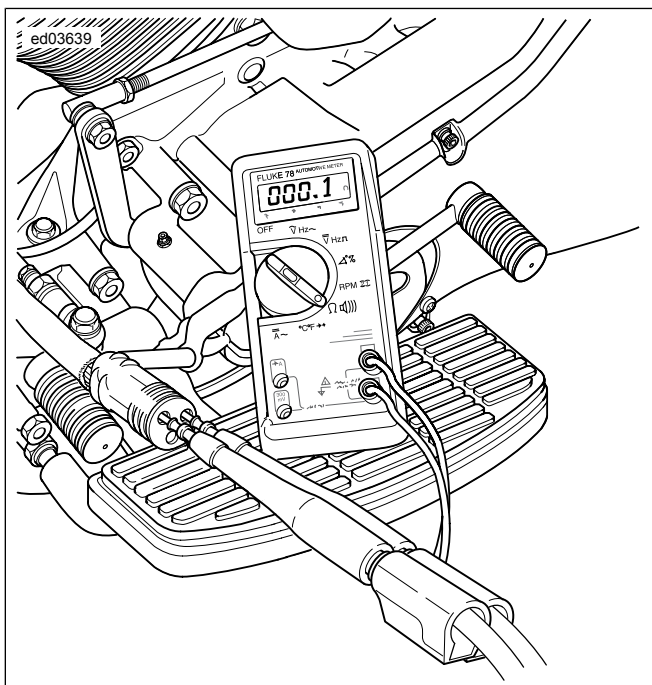

Figure 3-17. Check for Stator Resistance (Typical)
- 4. See Figure 3-17. Remove ground lead. Test resistance across stator [47B] terminals 1-2, 2-3 and 3-1.